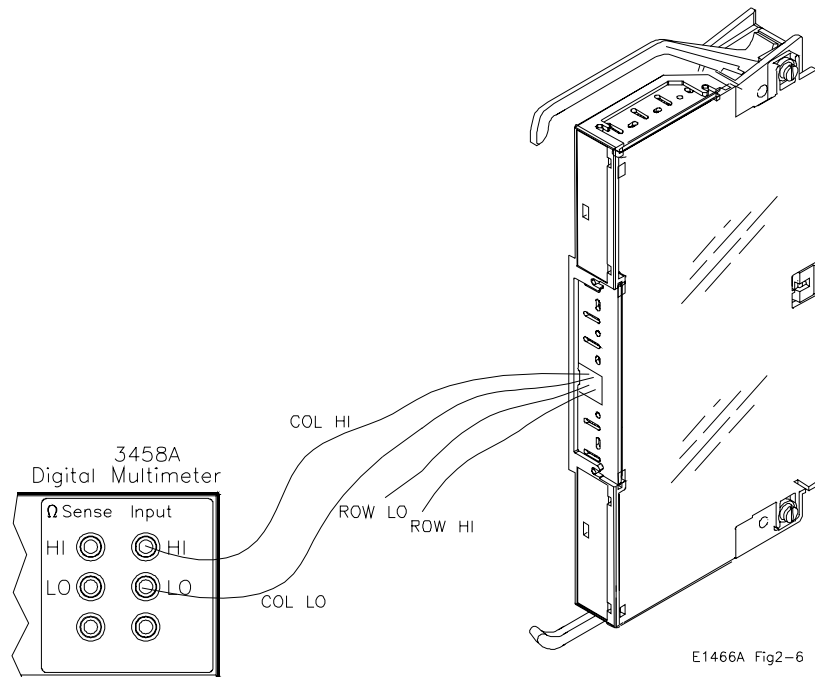

Figure 2-6. HI to LO DC Isolation Test Connections
1. Make hardware connections as shown in Figure 2-6